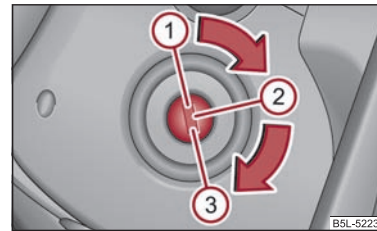

Fig. 109 Ignition lock positions
- The engine can be switched off by turning the ignition key into position ① ⇒ page 103, fig. 109.